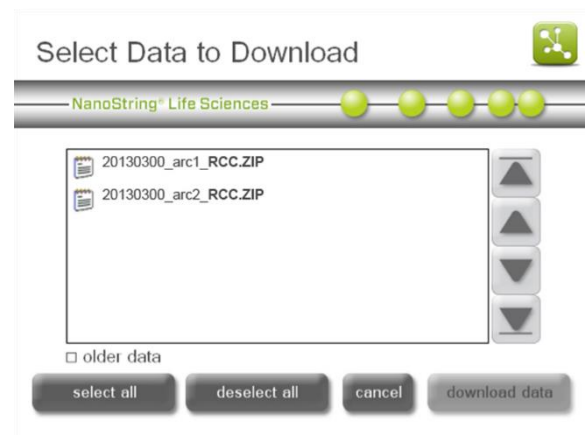

Figure 99: The 'Select Data to Download' screen.
The 'Select Data to Download' screen will appear (**Figure 99**).
1. In the ‘Select Data to Download’ screen, select the ‘older data’ option box (located below the file selection area; **Figure 99**).